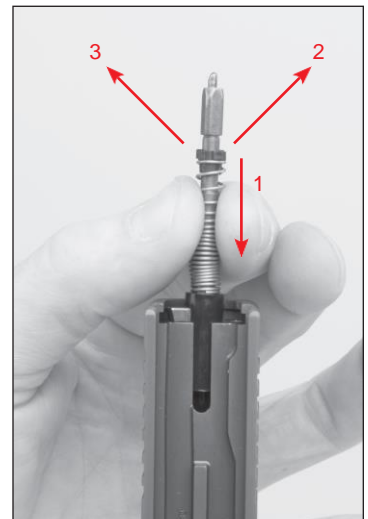

Fig. 37
- With the firing pin assembly reversed and installed in the firing pin channel cut and with the lug turned to one side, grasp the firing pin spring just below the spring cups. Using your thumb and forefinger, pull downwards on the spring as far as possible to allow the spring cups to fall clear. If they do not release, pull them away with your other hand. (Fig. 37)